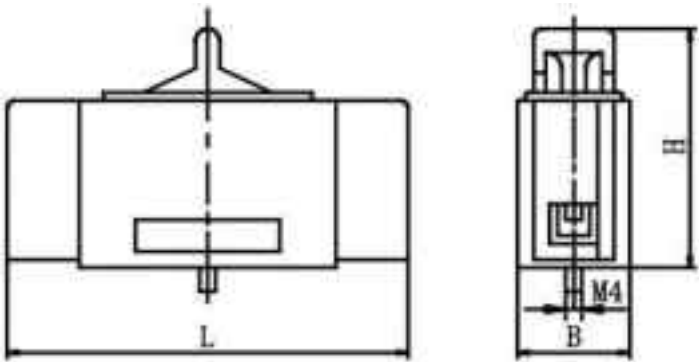

Figure 2 RT-20 Screw Fixed Holder
5.2 Outline and installation dimensions of the fuse holder: As specified in Figures 2~5 and Table 3.